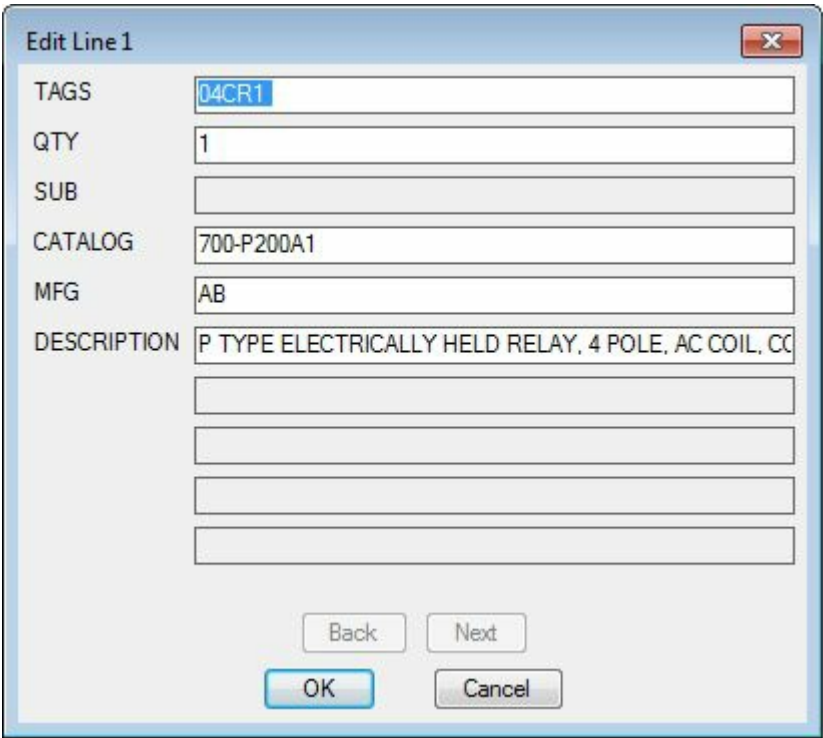

Figure-7. Edit Line dialog box
- Double-click on the desire row, the **Edit Line** dialog box will be displayed; refer to Figure-7.